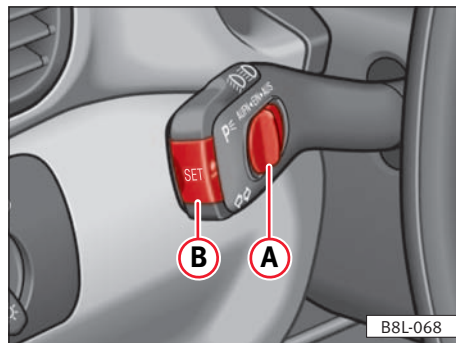

Fig. 147
When the speed to be maintained has been reached the press button ⇒ **fig. 147 (B)** (SET) must be pressed briefly. The foot can then be taken off the accelerator pedal.
The stored speed can be reduced by pressing button ⇒ fig. 147 .
By pressing button ⇒ fig. 147  briefly, the stored speed is reduced by a preset amount. If you press and hold the button, the speed will decrease through automatic deceleration. The speed reached when reducing the button will be stored.
If the button is released at a speed of less than approx. 30 km/h, the memory is deleted. The speed must then, if necessary, be reset using button ⇒ fig. 147  after the vehicle has accelerated to a speed higher than approx. 30 km/h.
The stored speed can be increased without depressing the accelerator by moving the slide control ⇒ fig. 147  to RES.